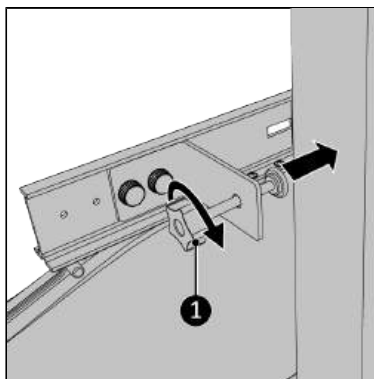

Figure 83.
15. Screw the clamping screw carefully to the fixed part of the window frame (Figure 83, pos. 1).